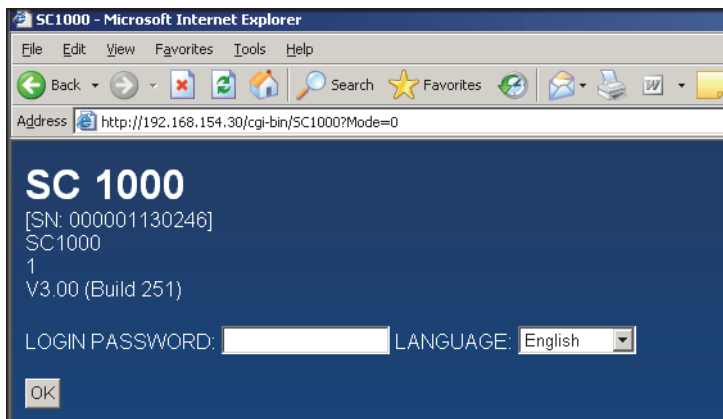

Figure 17 Login page for sc1000 controller
3. Enter the IP address (supplied by VPN server provider) of the sc1000 controller in the web browser on the computer (Figure 17).